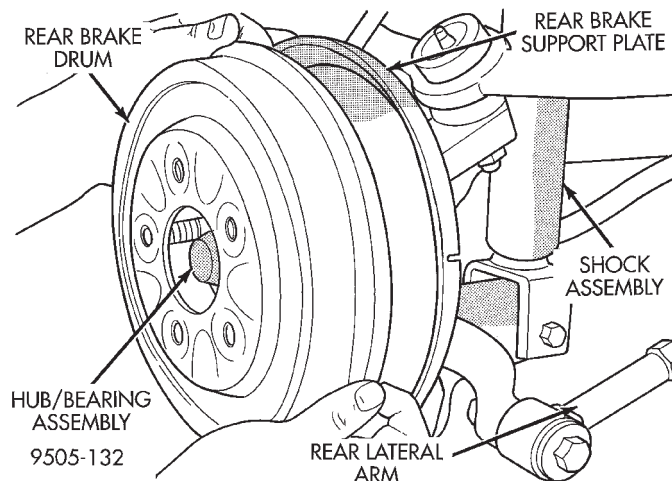

Fig. 146 Rear Brake Drum
(15) Raise vehicle on jackstands or centered on a frame contact type hoist. See Hoisting in the Lubrication and Maintenance section of this manual for the required lifting procedure to be used for this vehicle.
(16) Remove rear wheel and tire assembly from the side of the vehicle requiring park brake cable service.
(17) Remove the rear brake drum (Fig. 146) from the rear hub/bearing assembly.